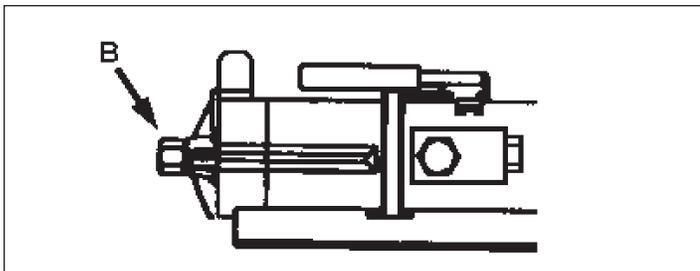

Figure 4
1. Connect a 9 CFM [15 m³/h] (minimum) air supply source to the ¼" [0,5 cm] NPTF pump air inlet swivel connector (**B**) as shown in Figure 4. Use only ¼" [0,5 cm] hose or quick disconnect fittings. Larger, heavier fittings are not recommended. Use a high-grade pipe thread sealer to seal the connection.